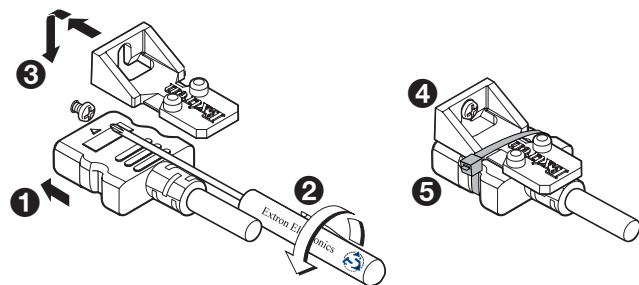

Figure 4. LockIt Lacing Bracket Diagram
1. Plug the HDMI cable into the rear panel connection (see figure 4, ①).
2. Loosen the HDMI connection mounting screw from the panel enough to allow the LockIt lacing bracket to be placed over it ②. The screw does not have to be removed.
3. Place the LockIt lacing bracket on the screw and against the HDMI connector ③, then tighten the screw to secure the bracket.